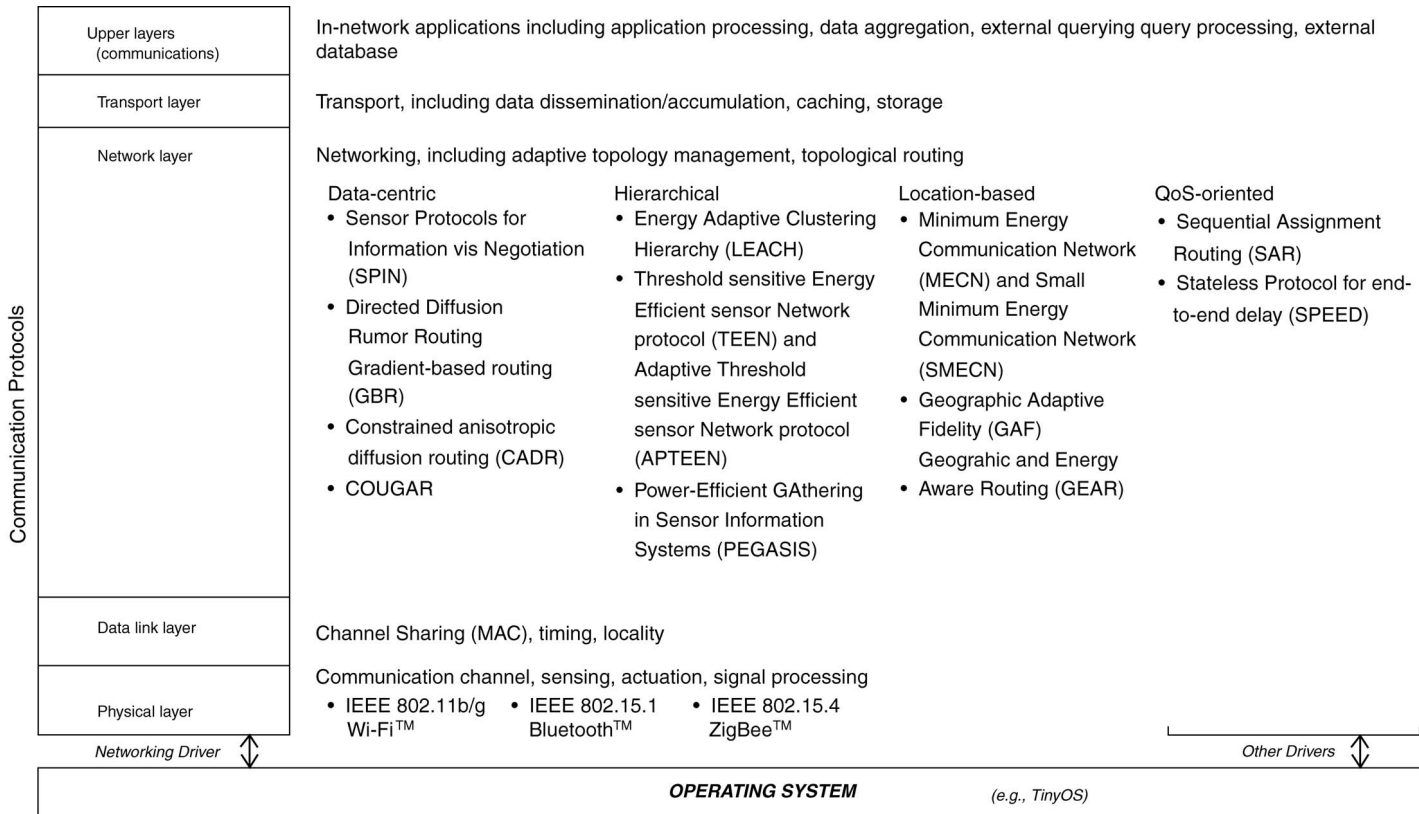

Figure 3.3 Some of the networking protocols supported by WNs.
1. **Operating system (OS) microcode (also called middleware).** This is the board common microcode that is used by all high-level node-resident software modules to support various functions. As is generally the case, the purpose of an operating system is to shield the software from the machine-level functionality of the microprocessor. It is desirable to have open-source operating systems designed specifically for WSNs; these OSs typically utilize an architecture that enables rapid implementation while minimizing code size. TinyOS is one such example of a commonly used OS.
3. **Communication processors.** This code manages the communication functions, including routing, packet buffering and forwarding, topology maintenance, medium access control (e.g., contention mechanisms, direct-sequence spread-spectrum mechanisms), encryption, and FEC, to list a few (e.g., see Figure 3.3).